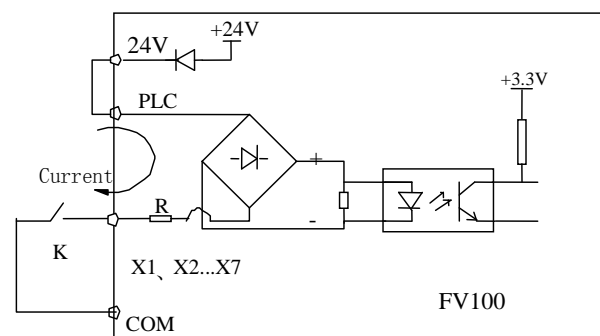

Fig 4-7 Wiring method of using the internal 24V power supply
FV100 multi-function input terminal uses a full-bridge rectifying circuit as shown in Fig.4-7. PLC is the common terminal of terminals X1~X7, The current flows through terminal PLC can be pulling current and the feeding current. Wiring of X1~X7 is flexible and the typical wiring are as follows:
1) Use the internal 24V power supply of VFD, the wiring is as in fig.4-7.